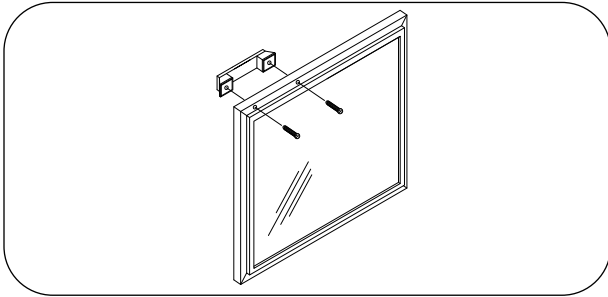

Figure 8. Door Handle Installation
9. Install door handles to top of doors on front and back of cabinet, using the screws supplied. (See Figure 8.)